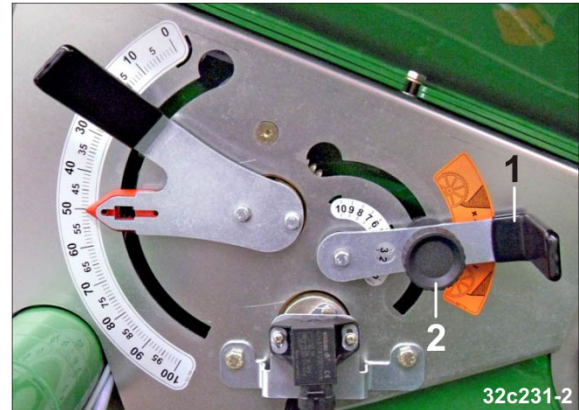

Fig. 168
1. Adjust the seed shutter using the lever (Fig. 168/1). Take the preliminary setting value from Table (Fig. 167).
2. Secure the lever position with the knurled screw (Fig. 168/2).